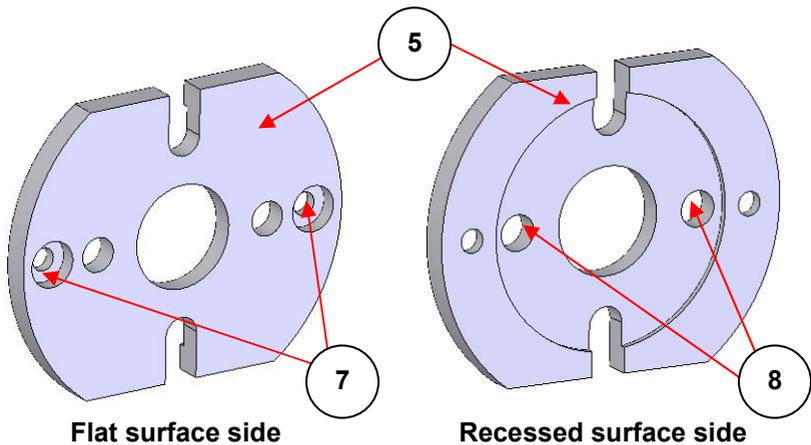
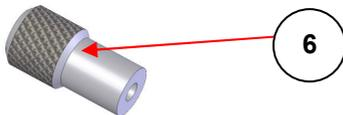

Fig 3. Front cover plate (both sides seen) to hold High Pressure Liquid Cell when placed in the Electrical Heating Jacket GS20730
Fig 4. Thumbscrew (2 off) used with the front cover plate (5)
2. Replace the standard front cover plate of the Electrical Heating Jacket with the front cover plate (5) supplied with the High Pressure Heatable Liquid Cell (Fig 3) and secure using the thumb screws (6) supplied with the High Pressure Liquid Cell (Fig 4) in place of the standard "quick-release" thumbscrews as supplied with the Electrical Heating Jacket.
From Figs 3 and 4 the thumbscrews (6) hold the front cover plate (5) to the screw threaded studs of the Electrical Heating Jacket through the holes identified at (7). For insertion of the controlling thermocouple of the Electrical Heating Jacket into the High Pressure Liquid Cell, one of the holes identified at (8) is used on the front cover plate (5), depending on which surface of the front cover plate (flat or recessed) is in contact with the High Pressure Liquid Cell.
7. Connect the thermocouple from the temperature controller to the thermocouple hole (9) in the body and at the front of the High Pressure Liquid Cell. (See Fig 5). The thermocouple will also pass through the front cover plate through one of the hole positions (8) as seen at Fig 3. Positioning of the thermocouple here in the High Pressure Liquid Cell enables the temperature of the cell to be monitored very close to the liquid sample.